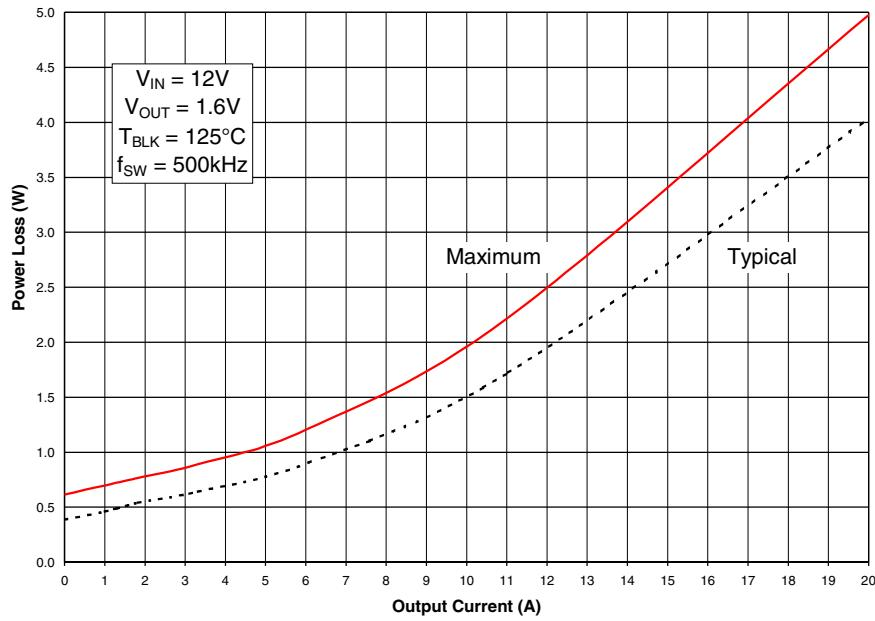

Fig 1. Power Loss vs. Current
① Measurement were made using four 10uF (TDK C3225X7R1C106M or equiv.) capacitors across the input. See Figs. 1 & 3.